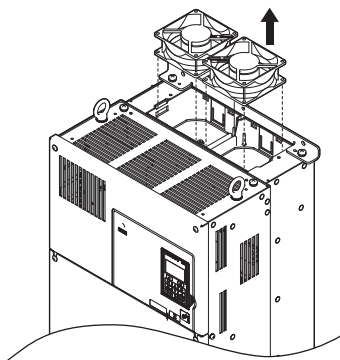

Figure 7.14 Removing the Cooling Fan: 4A0075, 4A0091
2. Lift up directly on the cooling fan as shown in Figure 7.14. Unplug the relay connector and release the fan from the drive.